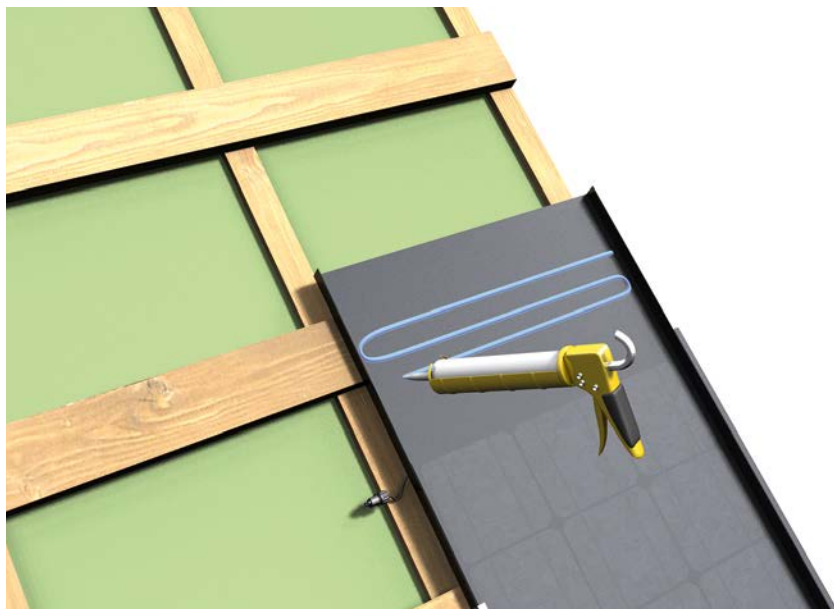

Fig. 9
3.8 The upper part of the panel (where the overlapping area is) should then be prepared for the second panel by using **three layers of adhesive sealant** (Fig. 9).